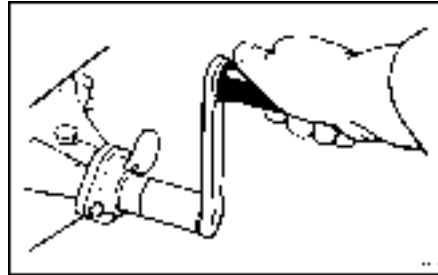

Figure 2.4.4 Holding the Starting Handle
7. Firmly hold the handle grip, with the thumb on top of the grip as shown in 'Figure 2.4.4 Holding the Starting Handle', and crank the engine really fast, when sufficient speed is obtained move the decompressor lever towards the gear end and continue to crank until the engine fires.